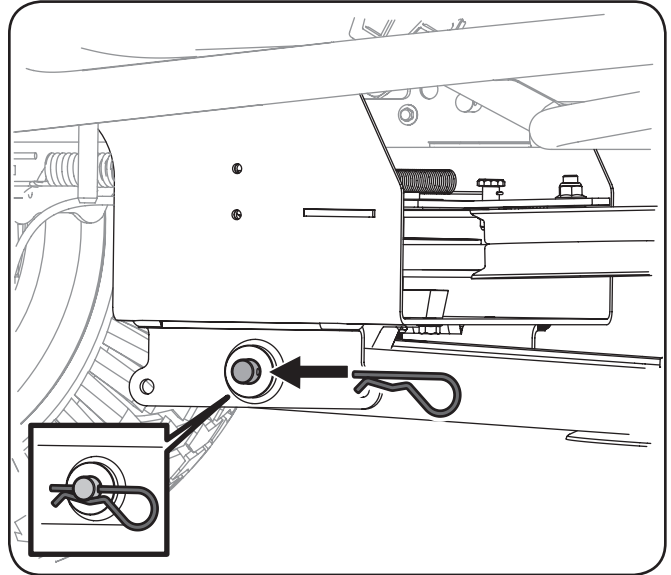

**Figure 3-23**
1. Roll the tractor into position over the frame rail assembly, aligning the frame rails with the carriage assembly. See Figure 3-23.